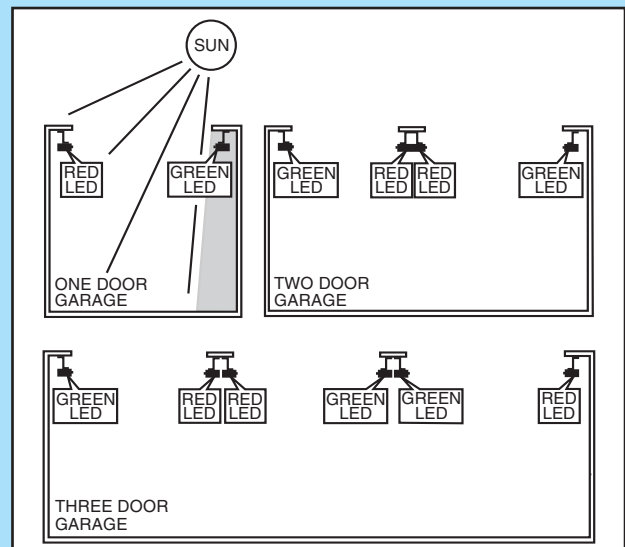

FIG. 3-4 STB locations.
- Determine which side of garage receives most direct sunlight (Fig. 3-4).
- Red LED should always be on sunny side whenever possible (Fig. 3-4).
- Place source and sensor modules on adjacent doors facing in opposite directions (Fig. 3-4).
(See directions on next page and Figure 3-4 before attaching.)